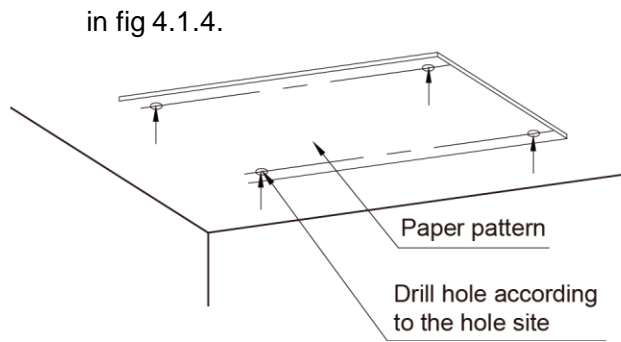

Fig 4.1.3
1) Stick the reference cardboard on the installation position; drill 4 holes according to the hole site on the cardboard as shown in fig 4.1.3; diameter of drilling hole is according to the diameter of expansion bolt and the depth is 60-70mm(2-3/8~2-3/4 in.), as shown